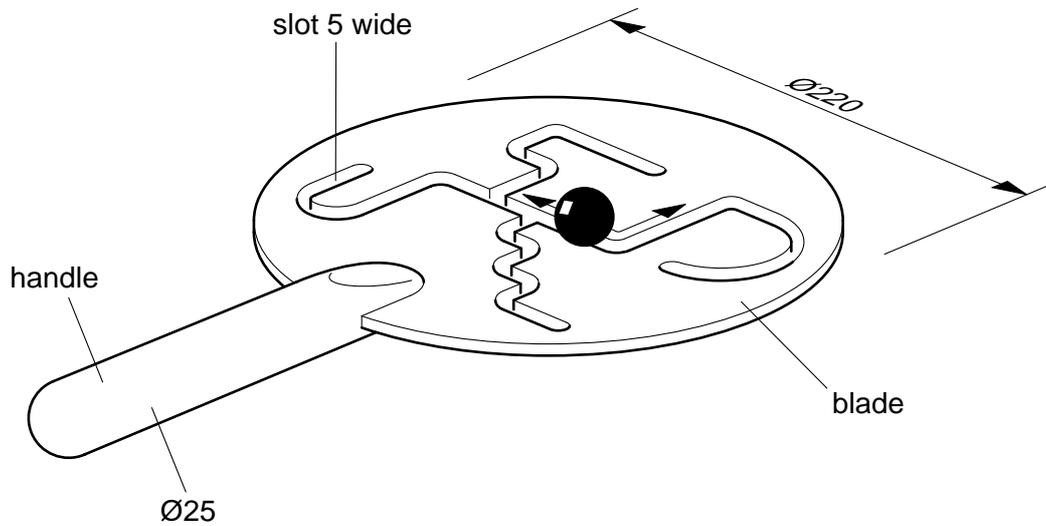

Fig. 10
- 18 Fig. 10 shows an idea for a 'hand paddle' to be used by handicapped people to develop motor skills.